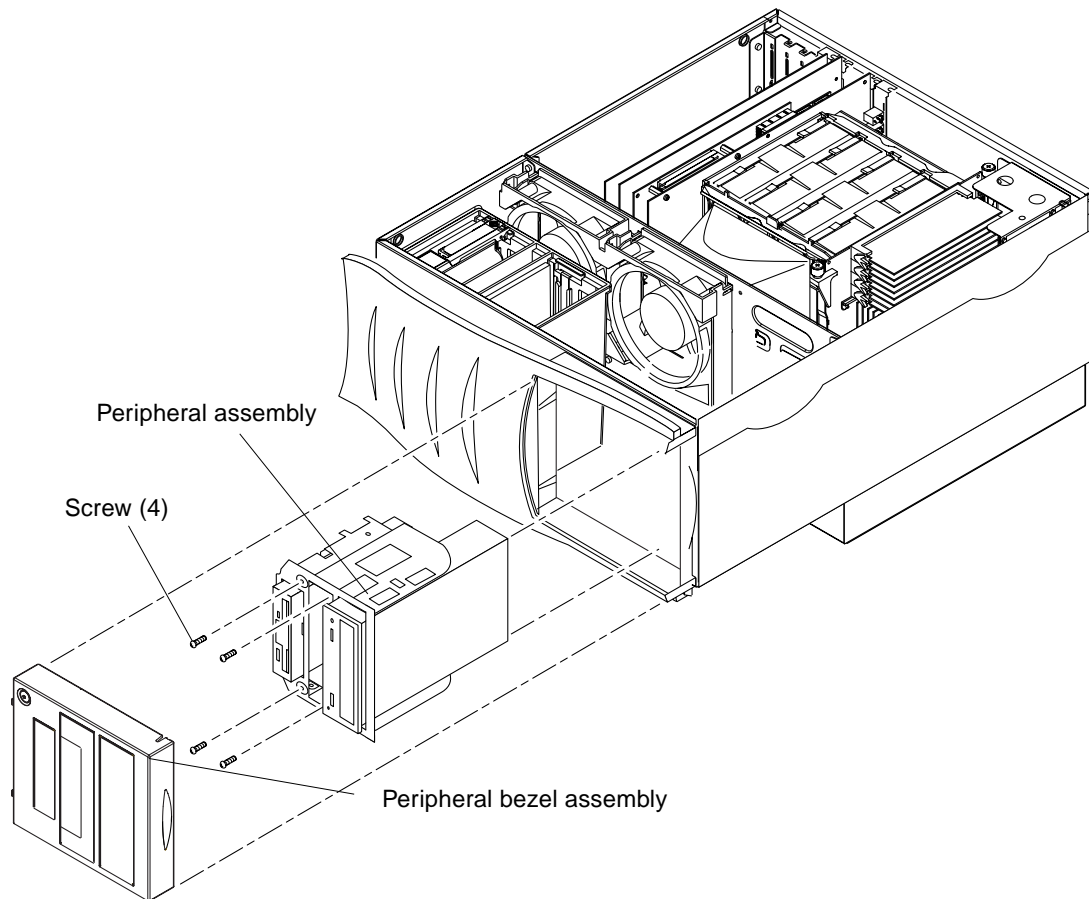
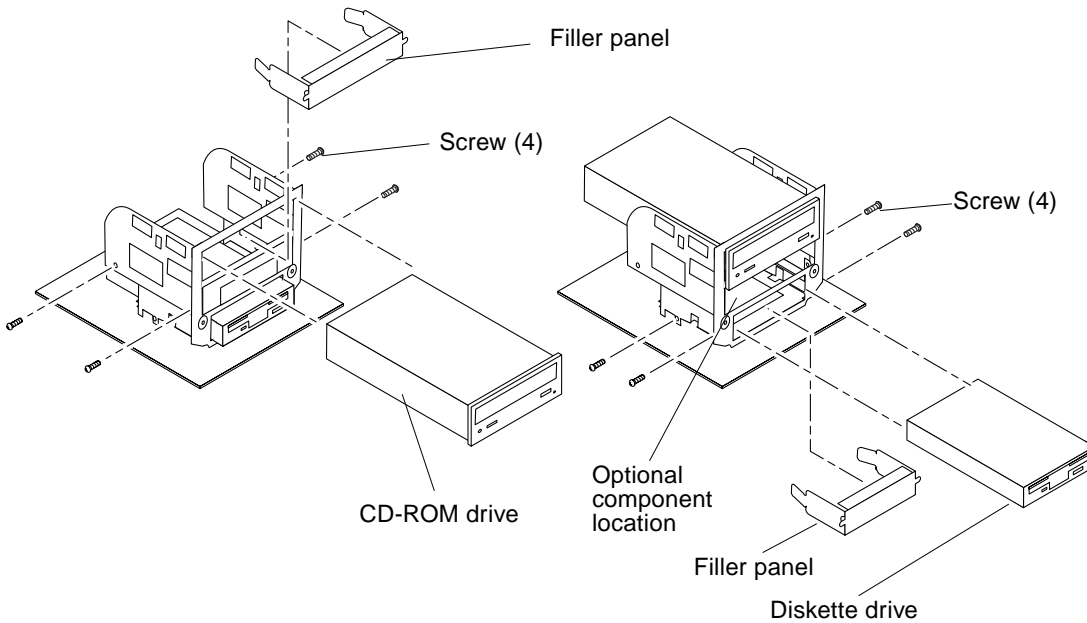

FIGURE 3-1 Removing and Replacing the Peripheral Assembly
FIGURE 3-2 Installing Any Optional Tape Drive Component
4. **Remove the peripheral assembly as follows (FIGURE 3-1 and FIGURE 3-2):**
1. **Remove the filler panel, if necessary** (FIGURE 3-2).
1. Replace the peripheral assembly as follows (FIGURE 3-2):